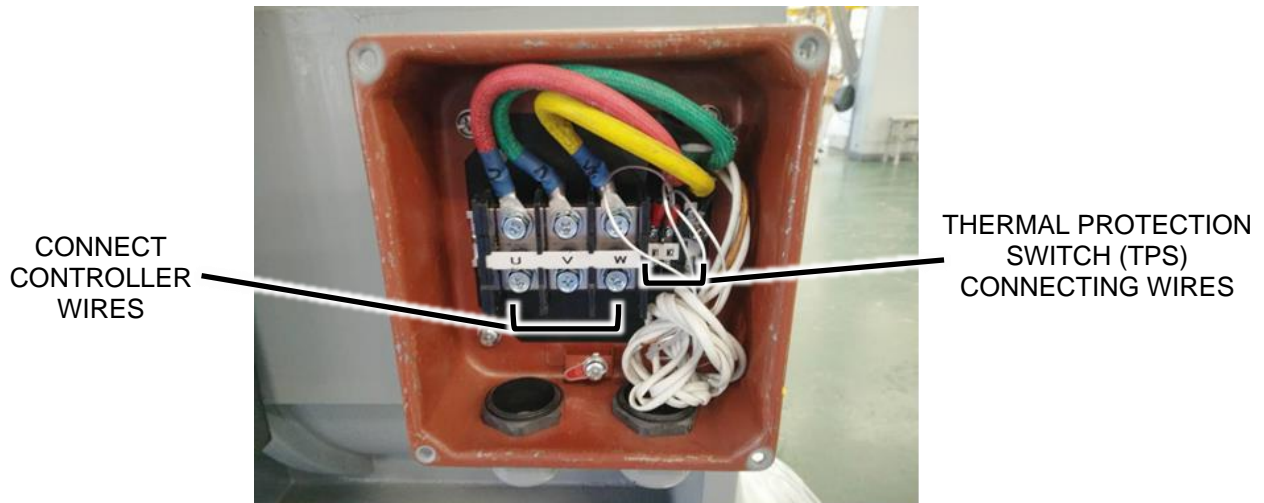

Figure 7
- The Thermal Protection Switch (TPS) is wired with leads labeled and supplied into the machine electrical enclosure. Refer to Figure 7.